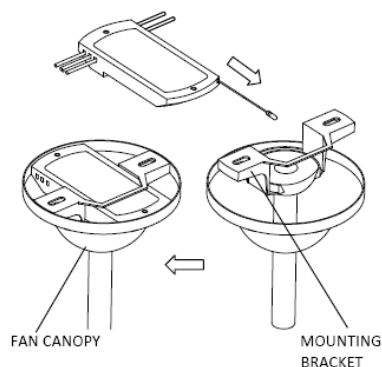

FIG 1
2. Once the connection has been made, the receiver inserts into the drop rod hanging bracket. The canopy comes up to cover the receiver and bracket. (FIG 1, 2 and 3)